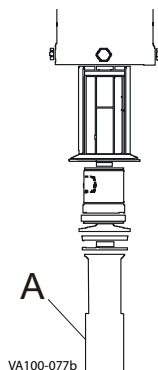

Figure 6 - Valve Stem Removal
1. Using a strap wrench or stem installation tool (see page 33), remove the lower stem (Figure 6, item A) from the actuator by turning it counter-clockwise. To re-install, tighten it clockwise until it is stopped.